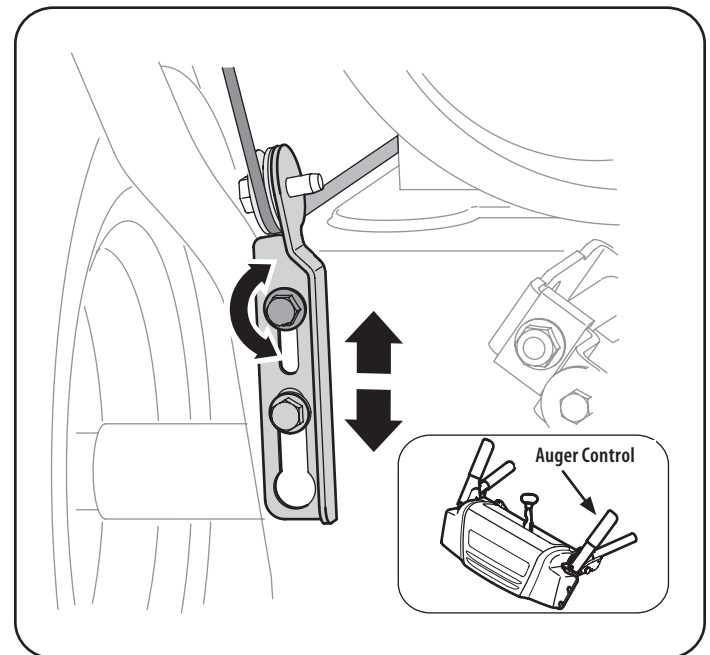

Figure 18
7. To readjust the control cable, loosen the upper hex bolt on the auger cable bracket. See Figure 18.